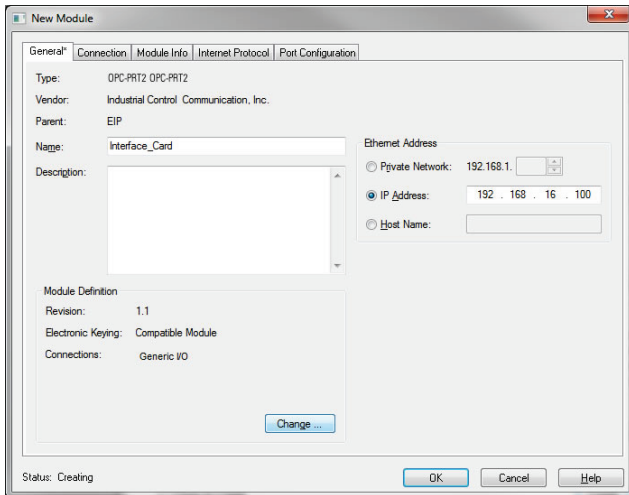

Figure 47: AOP Interface Card Module Properties
- 12) The "New Module" properties dialog box will open as shown in Figure 47.